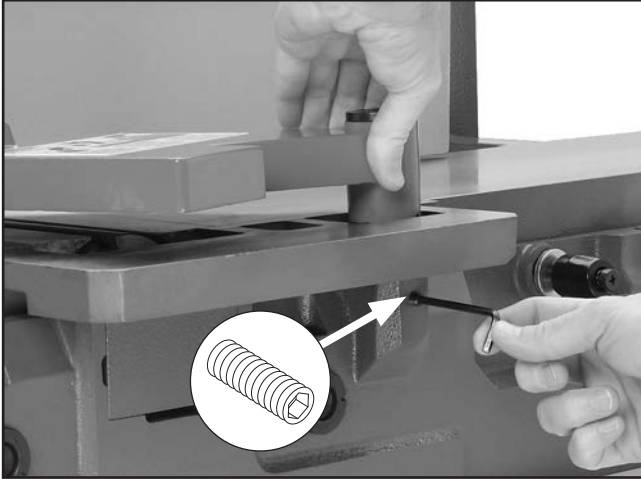

Figure 27. Installing cutterhead guard.
31. Insert cutterhead guard shaft into extension fence, as shown in **Figure 27**, so shaft flat is facing set screw, then tighten set screw against shaft.